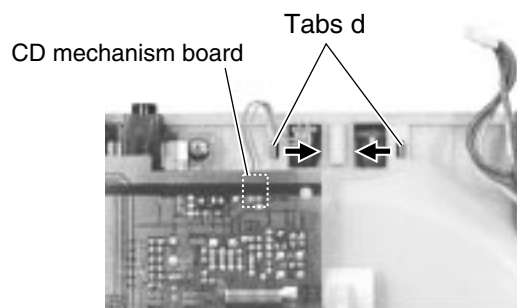

Fig.40
■Removing the LED board (See Fig.40 and 41)